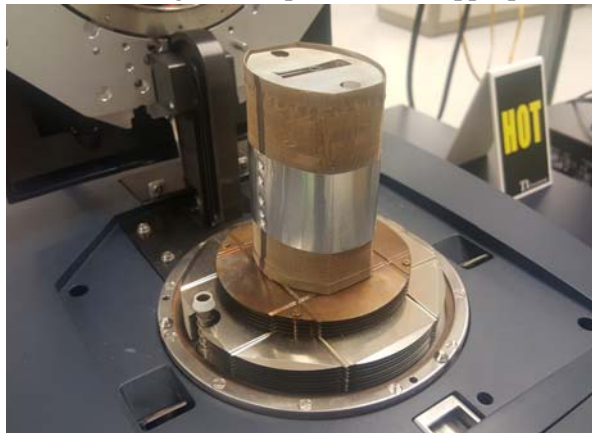

Figure 21 ACS Clamp Screen installed on the DMA 850.
- 5 After mounting the sample, slide the appropriate ACS Clamp Screen over the clamp. See Figure 20 and Figure 21.